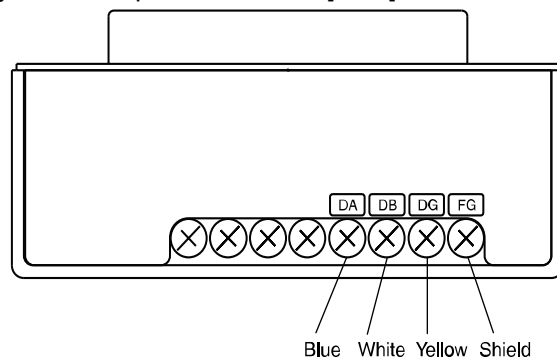

Fig.1
- (1) Be sure to connect a signal line to its dedicated terminal. (Refer to Fig.1)